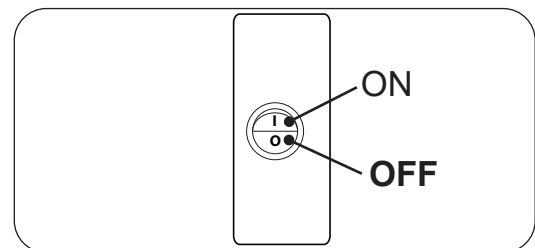

Fig. 26-1 Switch box, ON/OFF
1. Locate the ON/OFF switch at the front of the switch box. Press the switch to the **OFF (O)** position. See Fig. 26-1.